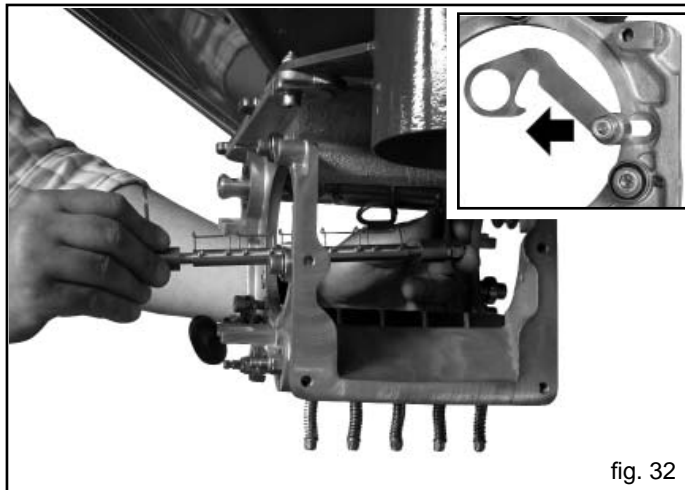

fig. 32
- 4) Extract the shaft of the spring elements from its housing (Fig. 32).